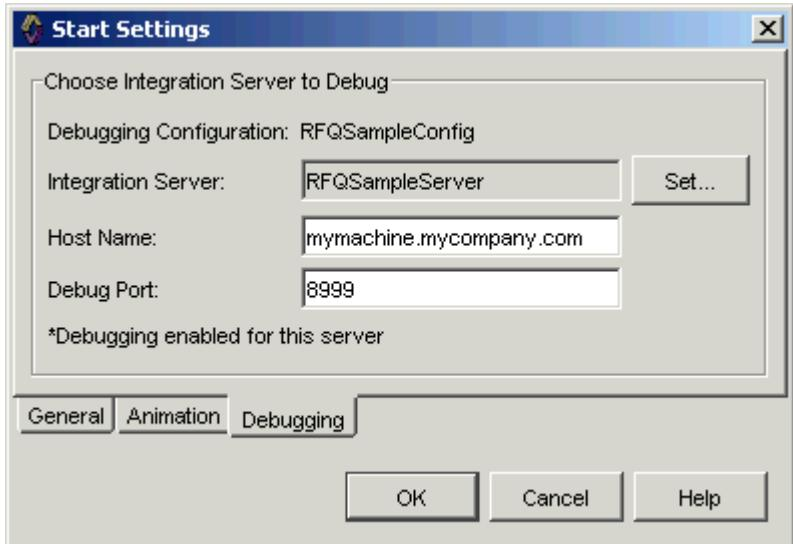

Figure 27-3 Start Settings—Debugging Tab Screen
2. In the **Start Settings** dialog box, click the **Debugging** tab (Figure 27-3).